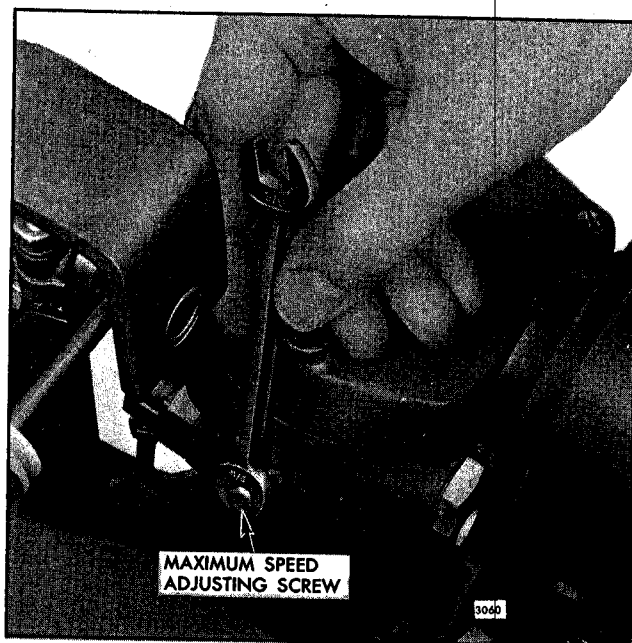

Fig. 5 - Adjusting Maximum Engine Speed
3. Loosen the lock nut and back off the maximum speed adjusting screw (Fig. 5) approximately $5/8"$.
3. Turn the maximum speed adjusting screw (Fig. 5) in lightly until contact is felt with the linkage in the governor.